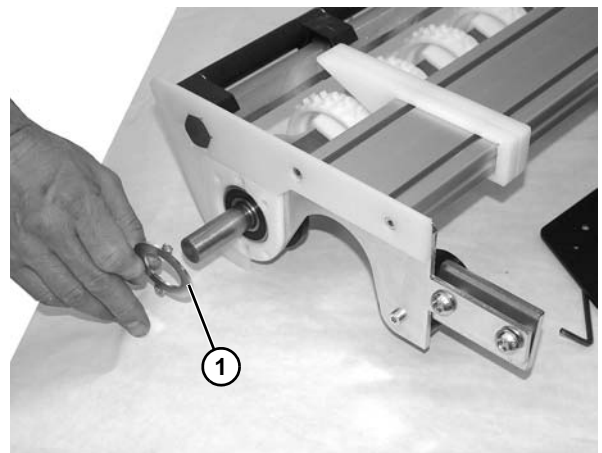

Figure 65
6. Remove bearing stop plate (Figure 65, item 1).